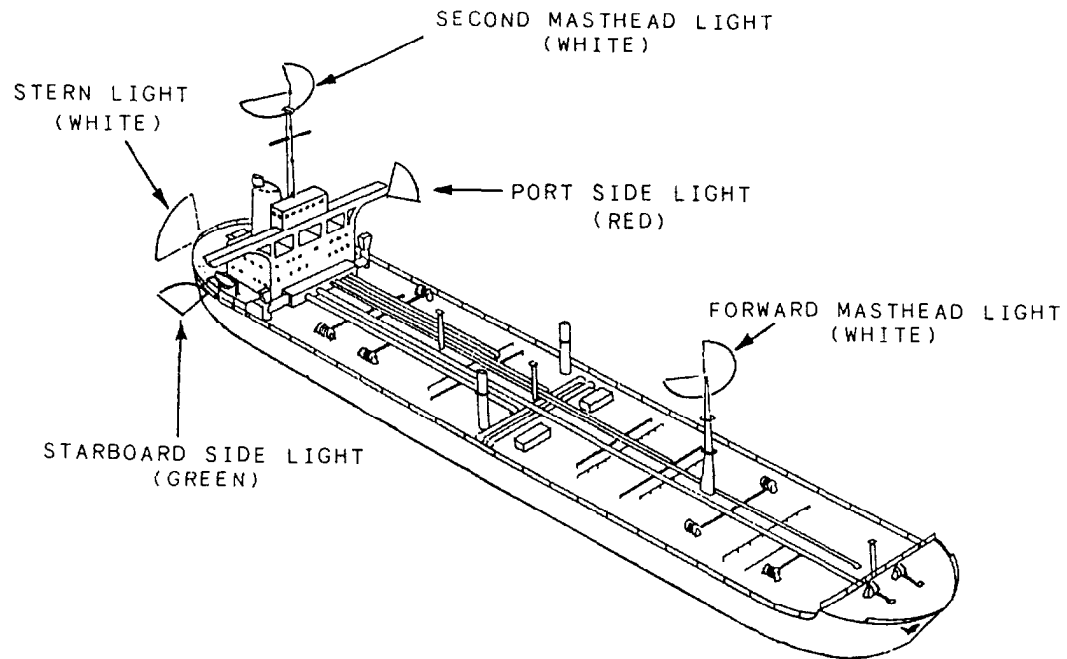

Figure 2-15.— Navigational lights on a power-driven vessel 50 meters or greater, underway.
The navigational lights installed on naval vessels must be in accordance with *Navigation Rules, International-Inland*, COMDTINST M16672.2B, or as allowed by an existing waiver or a waiver to be issued covering a vessel being built. These lights consist of (1) running lights, (2) signal lights, and (3) anchor lights. Figure 2-15 shows navigational lights onboard a vessel underway.